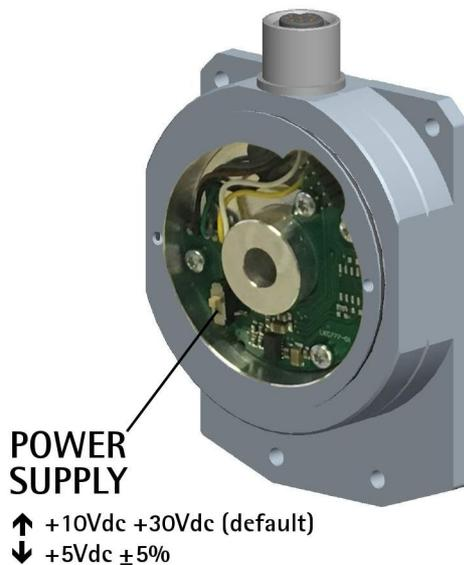

Figure 8
* The power supply voltage level must be set through the POWER SUPPLY DIP switch located inside the enclosure of the converter, see the "4.7 POWER SUPPLY DIP switch (Figure 8)" section on page 29.
4.7 POWER SUPPLY DIP switch (Figure 8)